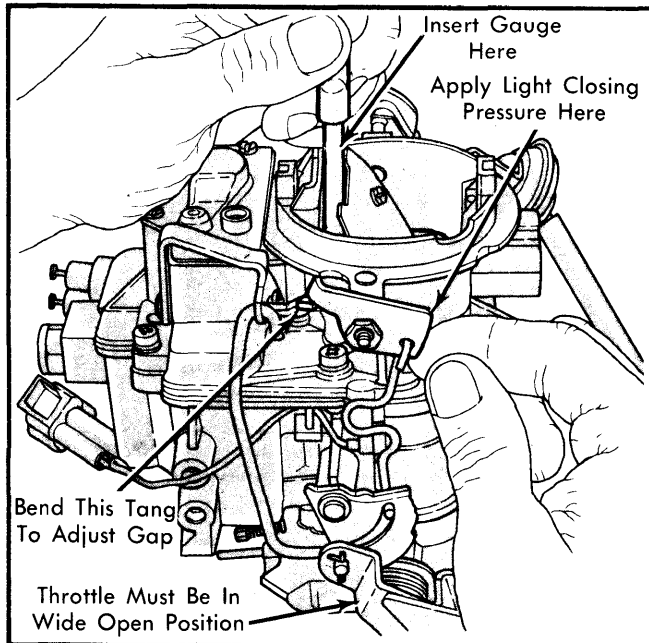

Fig. 3 Adjusting Choke Unloader
1) Hold throttle valves in wide open position. Close choke valve by applying light closing pressure on choke control lever. See Fig. 3.